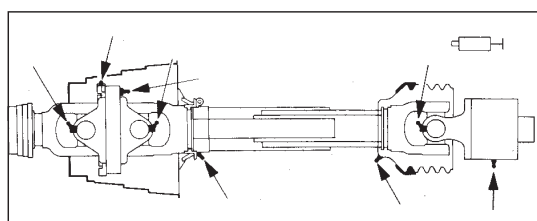
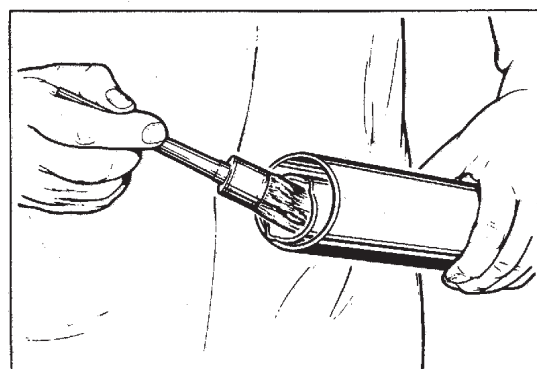

Fig. 5-2
Fig. 5-3
*Lubricate the shafts and hinged points every **50 hours**, but at least before and after every season (to prevent penetration of moisture and to remove any dirt) (fig. 5-2 / fig. 5-3).*
Lubricate the cardan shafts with brand-name grease (see above) before system start up and every **8 operating hours** (fig. 5-2).
Before any greater idle period, clean and lubricate the cardan shafts (fig. 5-3).